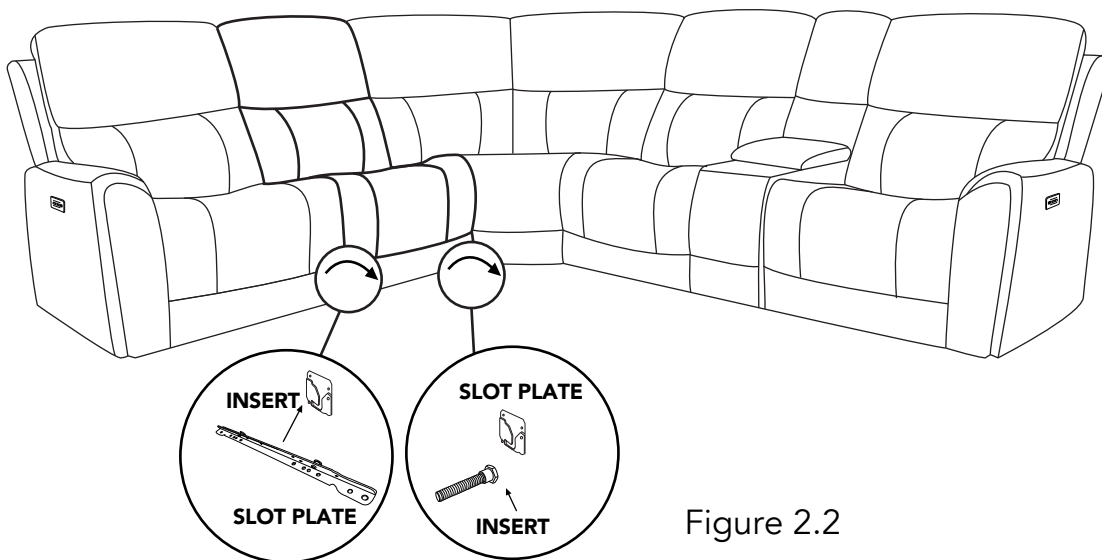

Figure 2.2
- 2 You can connect two or more recliners by connecting each position with male and female buckle as Figure 2.2 illustrated. (See Figure 2.2)**